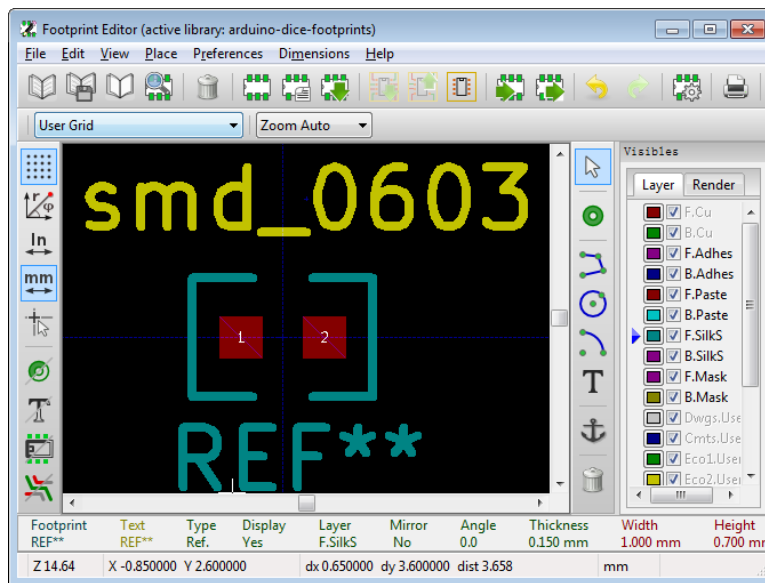

Figure 14: Completed footprint of the SMD 0603 capacitor.
9. The finished footprint drawing should look like that shown in Fig. 14.